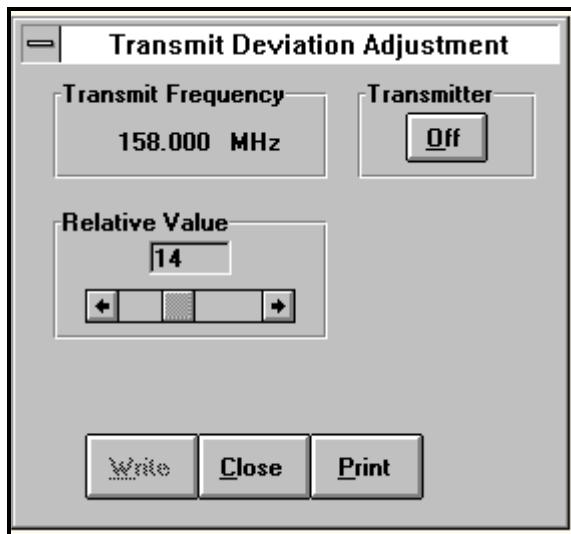

Figure 7.2 – Transmit Deviation Adjustment
1. Select “Transmit Deviation Adjustment” from the Service dropdown menu. The service adjustment window is shown in Figure 7.2.